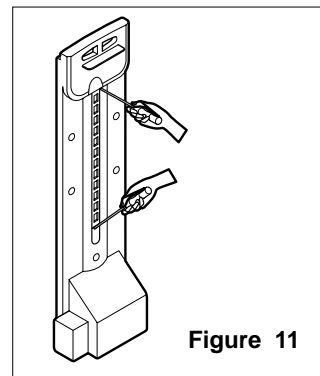

Figure 11
1. Remove an upper and lower Cap by using a flat screwdriver, and loosen 3 screws. (Figure 11)